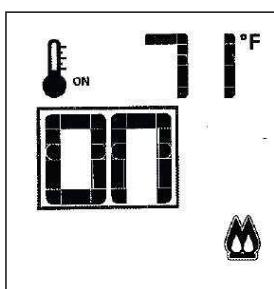

Figure 63. Split Flame.
- The Auxiliary Burner (front flames) is activated by using the Mode Key to index to the Split Flow icon. Press the Up Arrow Key to turn it ON. Fig. 63. Press the Down Arrow Key to turn it OFF. A single "beep" will confirm reception of the command.